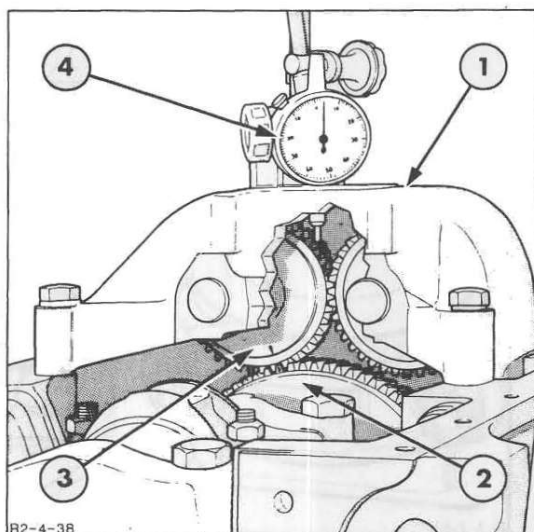

Figure 53
2. Use a dial indicator gauge to check the backlash between the crankshaft gear and the balancer drive gear, Figure 53. Position the dial plunger perpendicular to the face of one of the drive gear teeth then rock the drive gear to measure the backlash. Take the backlash reading at 90° intervals around the drive gear. If the backlash exceeds the specified limits see "Specifications" – Chapter 4, install new balancer gears.